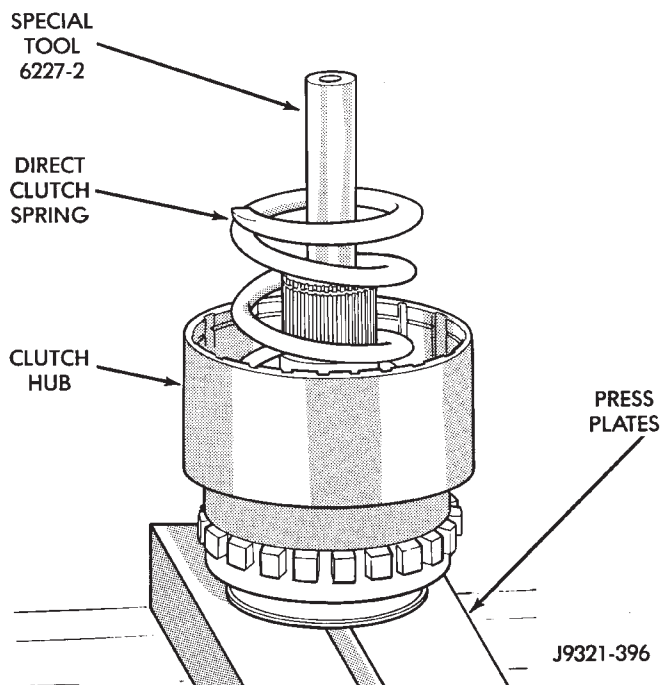

Fig. 48 Direct Clutch Spring Installation
(18) Install direct clutch spring (Fig. 48). Be sure spring is properly seated on spring plate.
(19) Assemble and install direct clutch pack on hub as follows: